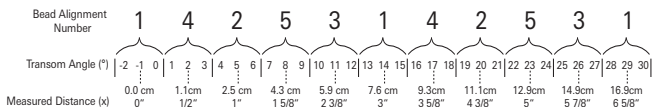
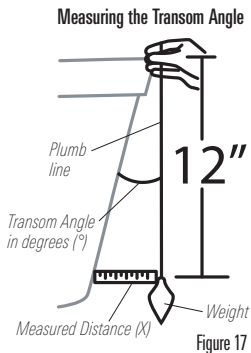

Figure 16
Figure 17
- If you already know your transom angle, refer to the chart below for the initial position to use to set the ratchets (Figure 16). If your transom is angled at 14 degrees (a common transom angle for many boats) use position 1 for the ratchets. In either case, go to step 2.
- If you do not know your transom angle, measure it using a plumb line (weighted nylon string or monofilament line) exactly 12 inches long. Hold the top of the plumb line against the top of the transom with your finger, and wait until the line hangs straight down (Figure 17). Using a ruler, measure the distance from the bottom of the plumb line to the back of the transom, then use the chart (Figure 16).
NOTE: It is important to take your measurement in the location shown in Figure 17, from exactly 12 inches down from the top of the transom.